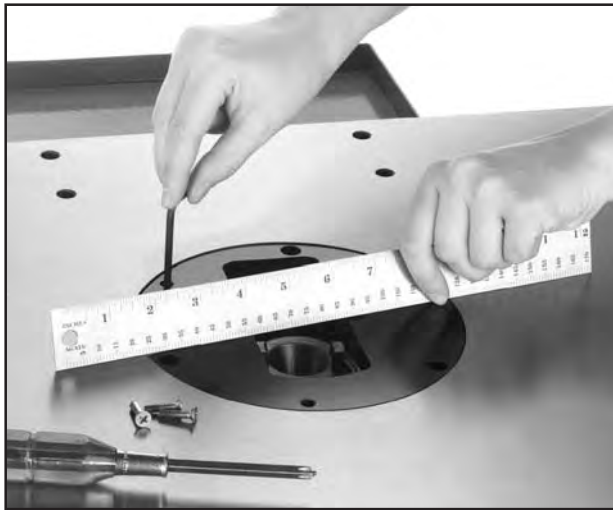

Figure 27. Leveling table insert.
2. Using a straightedge and a screwdriver, turn the barrel screws clockwise or counterclockwise to level the larger table insert with the table (**Figure 27**).